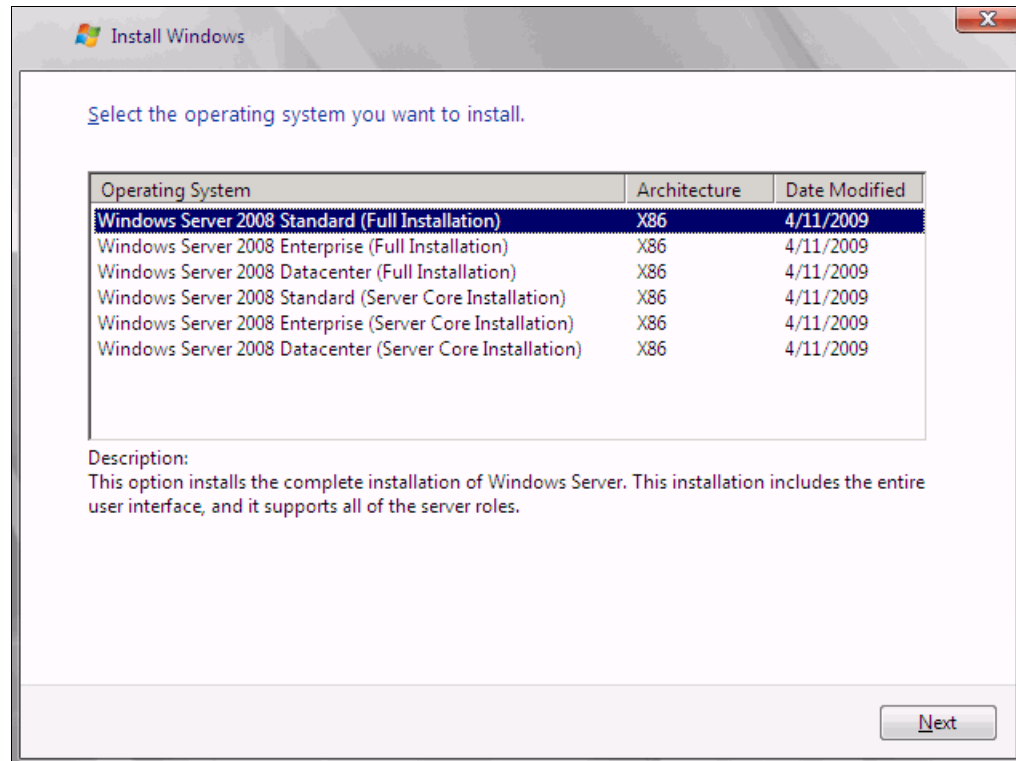

Figure 9-216 Selecting the operating system
4. Select the operating system that you want to install (Figure 9-216), and then click **Next**.